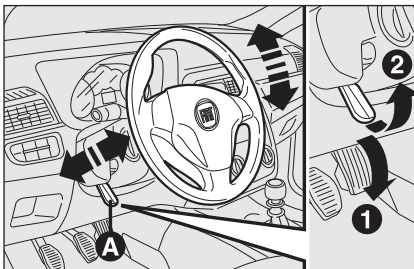

fig. 27
- release lever **A**-fig. 27 by pushing it forwards (position 1);